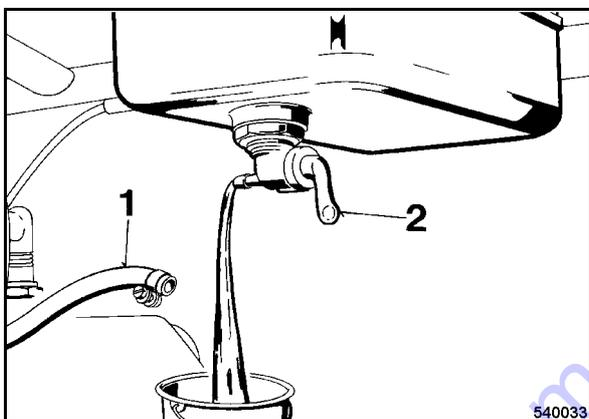

Fig. 54
- Disconnect the fuel hose 1 (Fig. 54) from the fuel shut-off valve (2). Open the fuel shut-off valve, drain the fuel off.
- Unscrew the fuel shut-off valve (2).